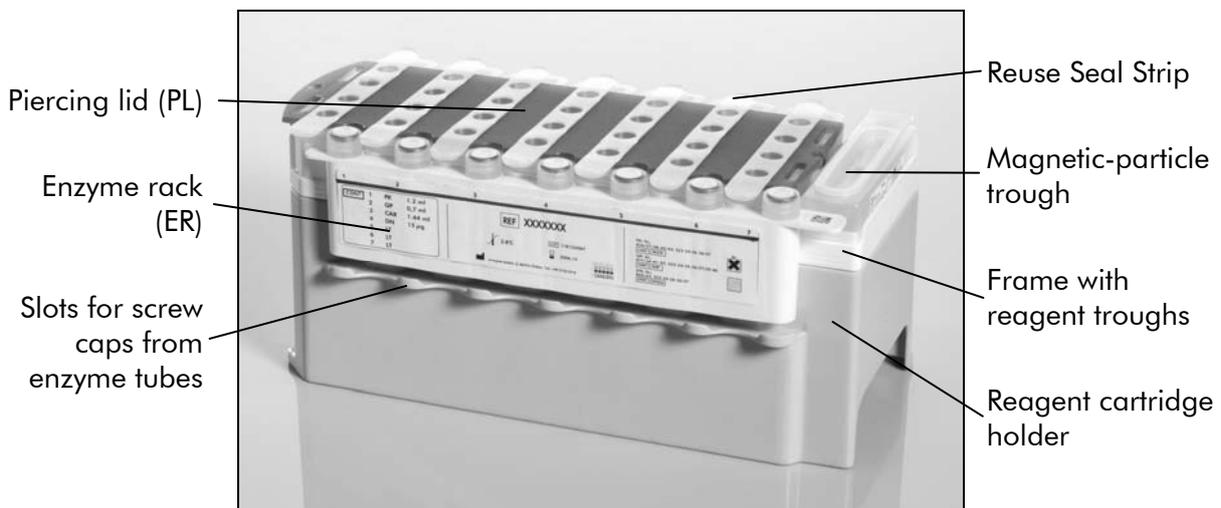

Figure 3. QIAasymphony reagent cartridge (RC). The reagent cartridge (RC) contains all reagents required for the purification procedure.
Reagents for purification of nucleic acids are contained in an innovative reagent cartridge (RC) (see Figure 3). Each trough of the reagent cartridge (RC) contains a particular reagent, such as magnetic particles, lysis buffer, wash buffer, or elution buffer. Partially used reagent cartridges (RC) can be reclosed with Reuse Seal Strips for later reuse, which avoids generation of waste due to leftover reagents at the end of the purification procedure.